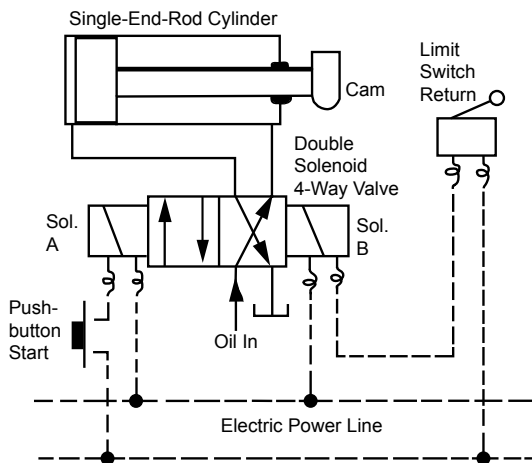

Figure 3. Simple reciprocation circuit which may be subject to self-shift if not properly designed.
**Figure 3.** Self-shift is most likely to occur in hydraulic circuits that use a double solenoid, 2-position, no-spring valve in which the solenoid is momentarily energized to shift the valve spool and thus to reverse the travel direction of the cylinder such as in this simple reciprocating circuit.
2. When using double solenoid, 2-position valves as in **Figure 3**, design the electrical circuit, if possible, so current is held on one solenoid or the other during cylinder travel.